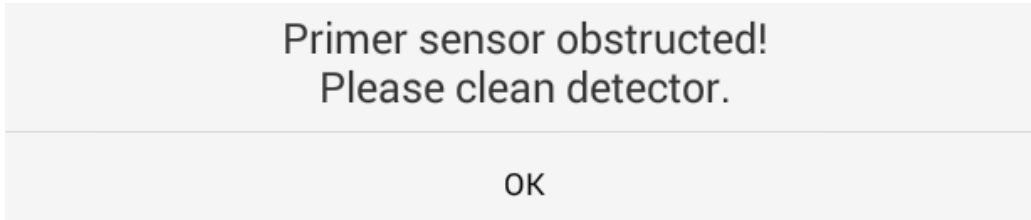

Figure 27: Sensor Obstructed Cleaning required Message
3. To clean the sensor use compressed air to blow into the port on the front of the sensor as shown in figure 27. **DO NOT USE SOLVENTS OF ANY KIND TO CLEAN THE SENSOR.** To clean the SUPER sensor use a cotton swab dabbed with rubbing alcohol to clean around the glass eye inside the housing.